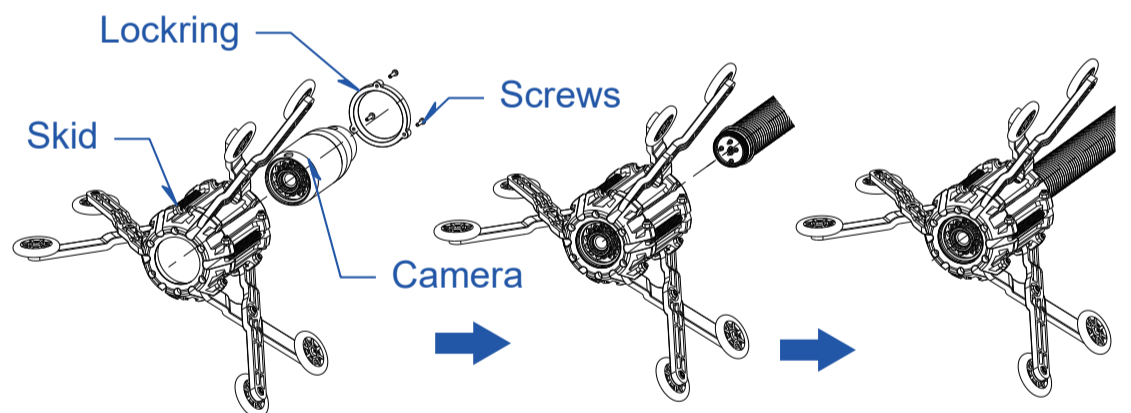

Figure 14. 120 Roller skid
2)Install 120 Roller Skid.(See Figure 14)